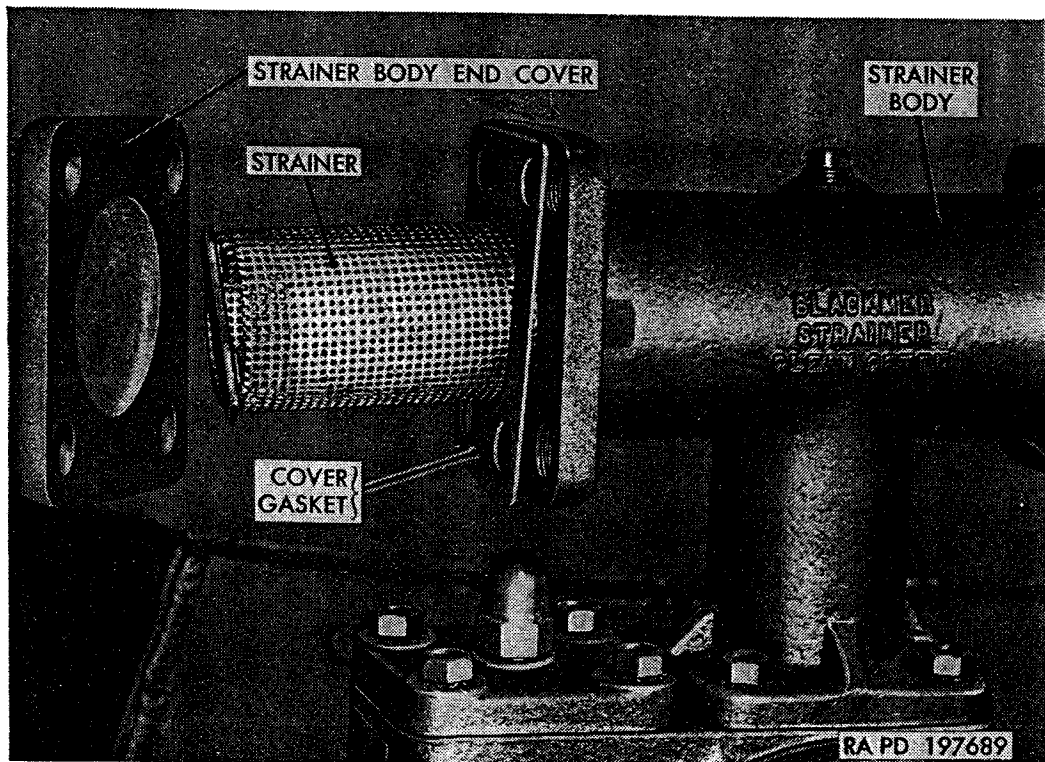

Figure 373. Water tank pump strainer.
b. *Pump Strainer Service* (fig. 373).
- (1) Remove four cap screws and external-teeth lockwashers attaching strainer body end cover to strainer body. Remove end cover and gasket; then withdraw strainer screen from strainer body. Discard gasket.
- (2) Thoroughly clean screen, using a brush if necessary to remove all foreign material. If cleaning solvent is used to loosen dirt or corrosion, wash off all traces of cleaning fluid with hot water. Make sure all particles of gasket are removed from end cover and from strainer body flange.
- (3) Insert strainer screen into strainer body, open end first. Coat both sides of new end cover gasket with gasket cement and place gasket on strainer body flange. Position strainer body end cover against body flange, with centering bar on strainer in place in depression in end cover. Attach cover to strainer body with four $\frac{1}{2}$ -13 x 1 cap screws and $\frac{1}{2}$ -inch external-teeth lockwashers.